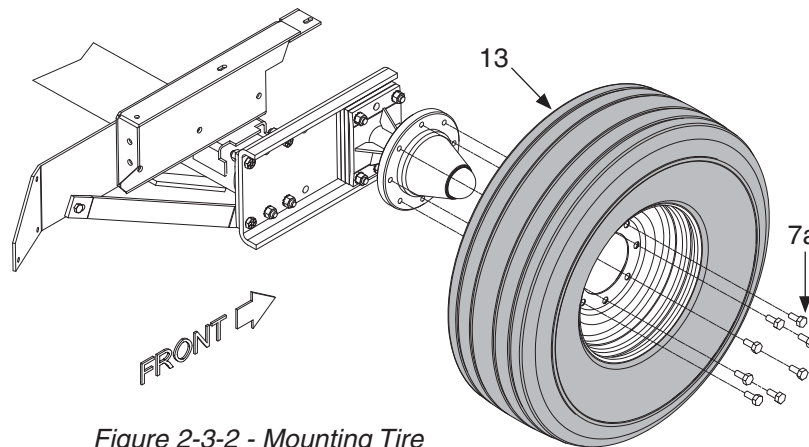

Figure 2-3-2 - Mounting Tire
D. Mount the tire with the valve stem pointing to the inside of the baler (see Figure 2-3-2). Torque all lug bolts as per torque chart on page 2-3-1.